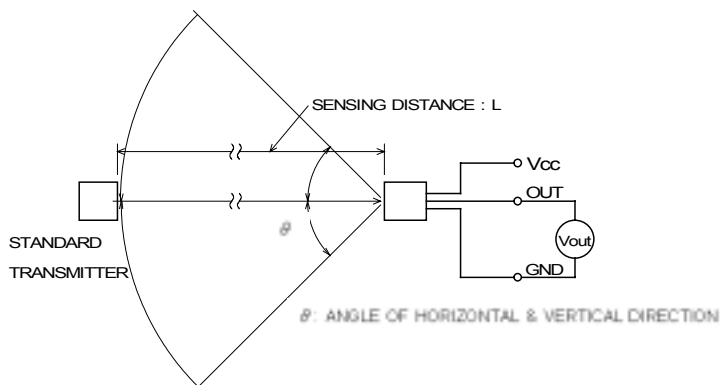

Fig.3 TEST SYSTEM
(2) Test system: Shown in Fig. 3.